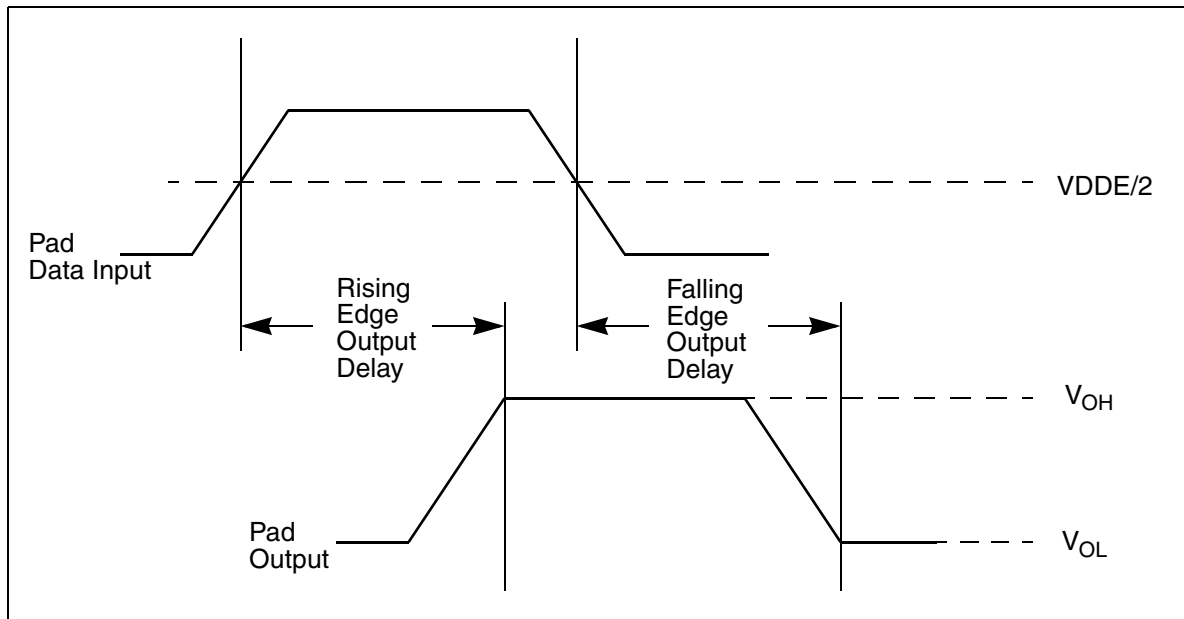

Figure 9. Pad output delay
- Output delay is shown in Figure 9: Pad output delay. Add a maximum of one system clock to the output delay for delay with respect to system clock.
7. Output delay is shown in Figure 9. Add a maximum of one system clock to the output delay for delay with respect to system clock.